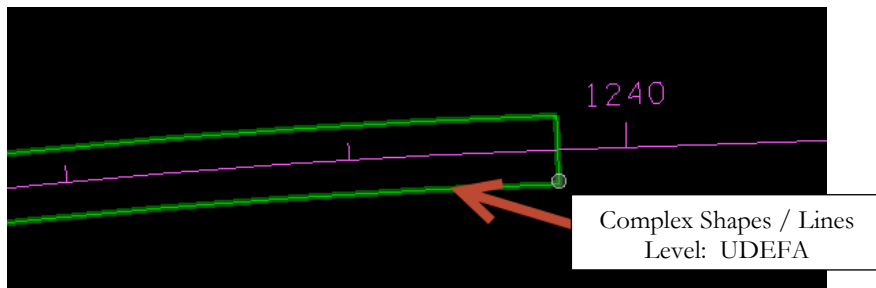
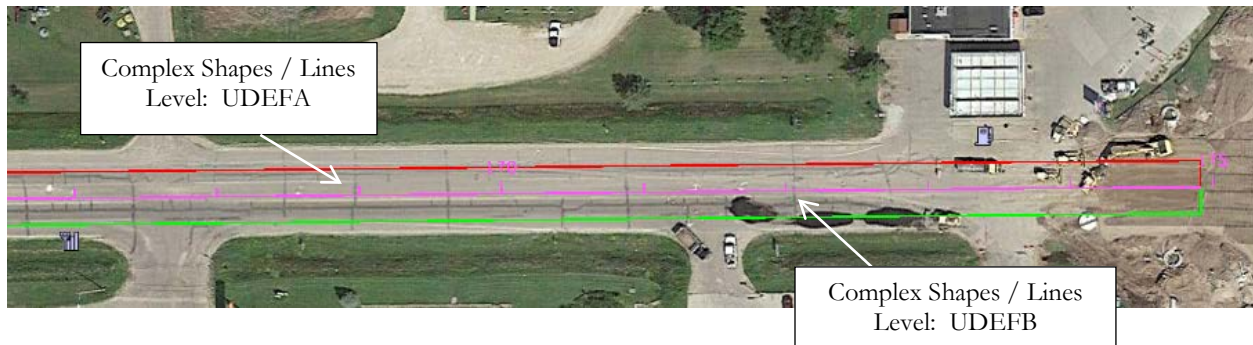

Figure 7.13. Snapshot of one (1) complex shape / line containing adjacent Traffic Lanes.
Figure 7.14. Snapshot of complex shapes / lines for 18-ft paving (1.5 lanes).
**Slight variations of the required boundaries for the closed complex shapes may occur at the request of the Contractor.** For instance, construction staging may be setup for grading work to be completed across the entire embankment width, in lieu of constructing one lane at a time. This would require the creation of one closed complex shape to include (enclose) all adjacent Traffic and Auxiliary Lanes (see figure 7.13). Additionally, there may be instances for paving applications where there is a continuous left turn lane and the Contractor paves 1.5 lanes (18-ft passes) instead of each lane separately. This case would require the complex shapes to be created for 1.5 lanes, in lieu of 3, separate 12-ft lanes (see figure 7.14).